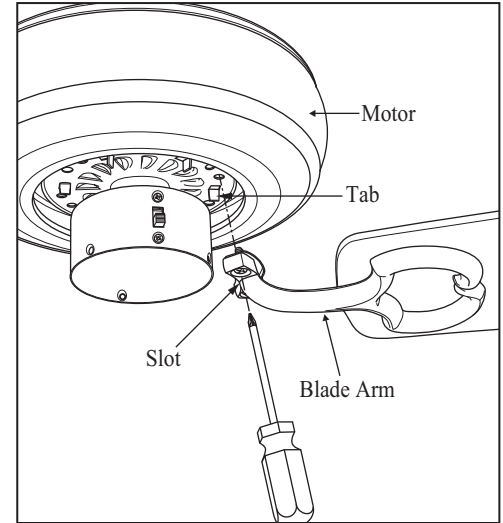

Figure 18
3. Fasten the blade assemblies to the motor by lining up the slots of the blade arms with the tabs on the motor, then tighten the two screws and washers already installed in the blade arms (Fig. 18).